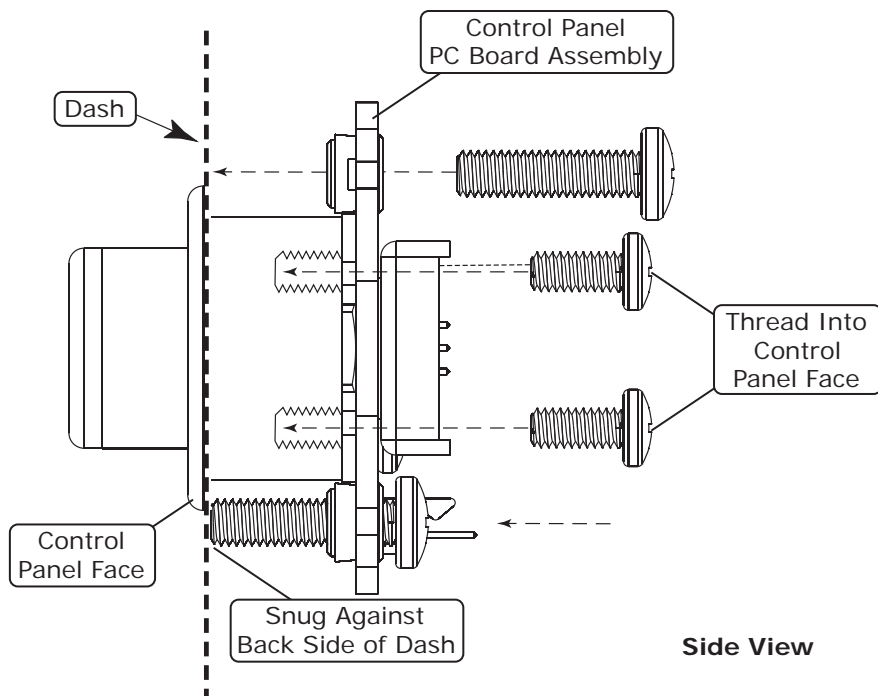

Figure 3
4. Install the control panel face through the opening in the dash. Place the control panel PC board assembly behind the dash, and secure it to the control panel face using the (4) 8-32 x 3/8" screws (See Figures 1 & 2, below, and Figure 3, Page 5). **NOTE: When tightening the control panel mounting screws, hand tighten until the screw contacts the back side of the dash. Then, using a screwdriver, tighten an additional 1/2 turn. Do not over tighten, as this may cause damage to the PC board or the dash.**